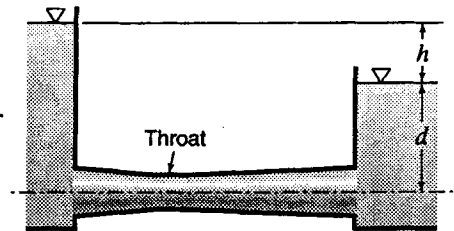

Figure P5.26
5.31 In Fig. P5.26 neglect all head losses except at discharge, and assume water is flowing. If $h = 4$ m and $d = 5.5$ m, find the highest permissible water temperature in order that there be no cavitation. The throat diameter is 70 percent of the pipe diameter where it joins the downstream tank. Atmospheric pressure is 97 kPa abs.